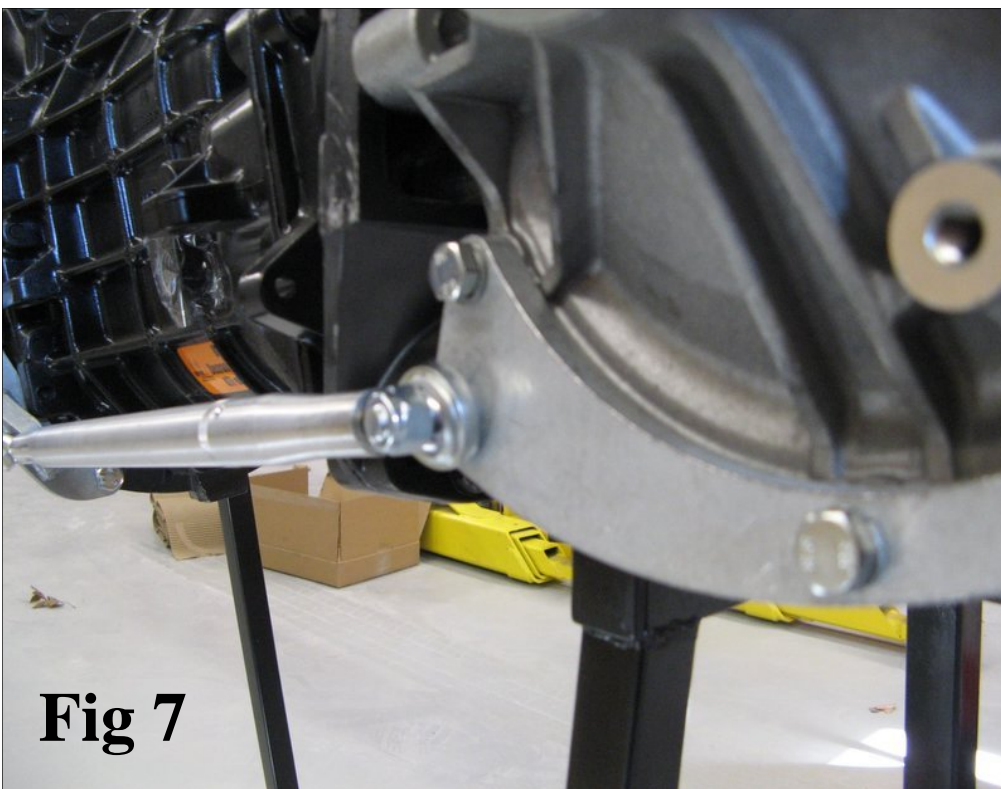

Fig 7
24. Install the 2 short lower rods onto the front transmission brackets using the supplied 3/8 24 x 1" bolts and lock washers. Be sure the knurled end is towards the rear. (fig 7)